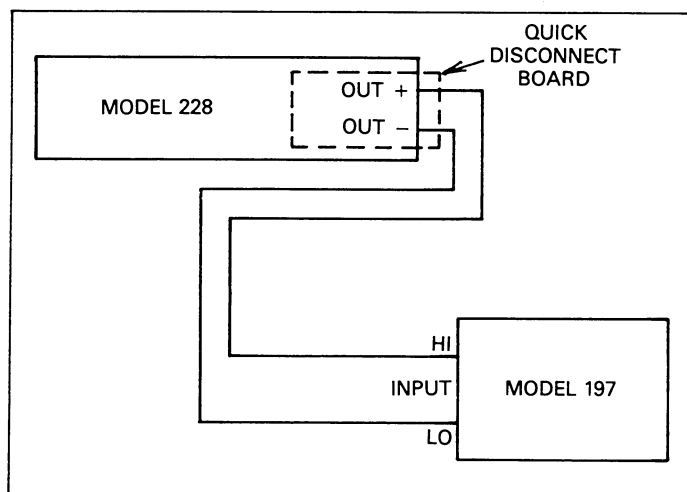

Figure 5-1. Output Voltage Configuration
1. Connect the Model 228 and the Model 197 as shown in Figure 5-1.